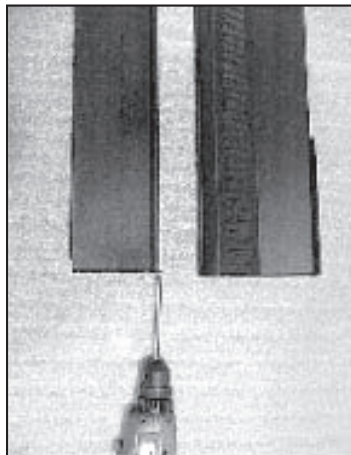

Figure 25.1
2. Install (1) 8-32 x 3/8 inch screw into bottom tab of side panel **Figure 25.1**.